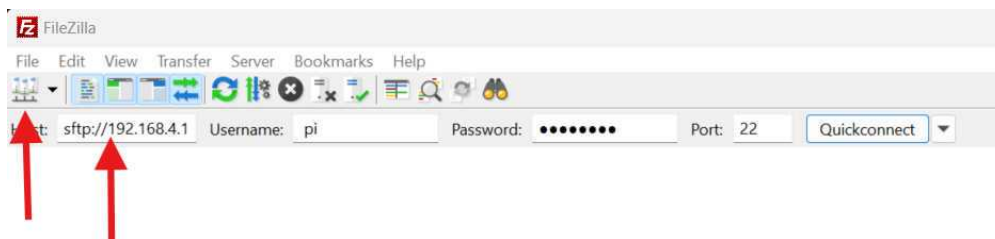

Figure 4: How to log to a ftp host
2. Either click on the top left to create a new connection or use the quick-connection fields below (it will not save the ftp site for later, Fig.4)